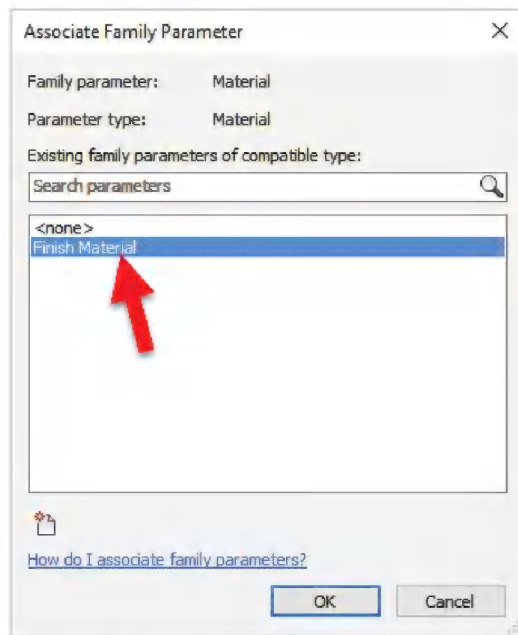

FIGURE 15-4.19 Mapping material to parameter
37. Select **Finish Material** from the list and then click **OK** (see Figure 15-4.19).